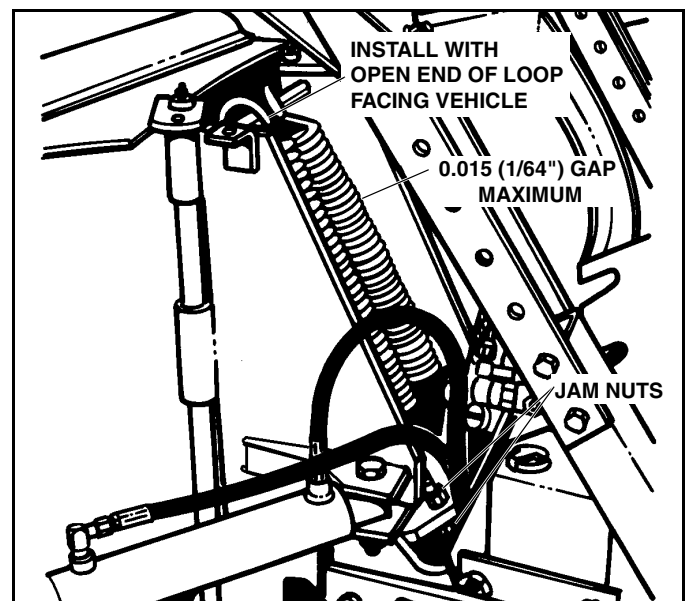

Figure 1-20
2. Check to make sure that the spring is installed as illustrated with open end of top loop facing vehicle. (See Figure 1-20)
3. Using a 15/16" socket wrench through the holes in the bottom plate of the main frame, loosen the two (2) 5/8" nuts on the trip spring eyebolts. (See Figure 1-20).